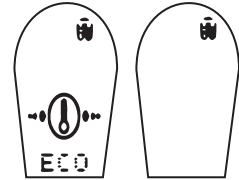

Figure 4
1. When the Anti-scale Cartridge Indicator lights up (Figure 4), it indicates the anti-scale cartridge needs to be changed. It is very important for you to change the cartridge before continue to do ironing.